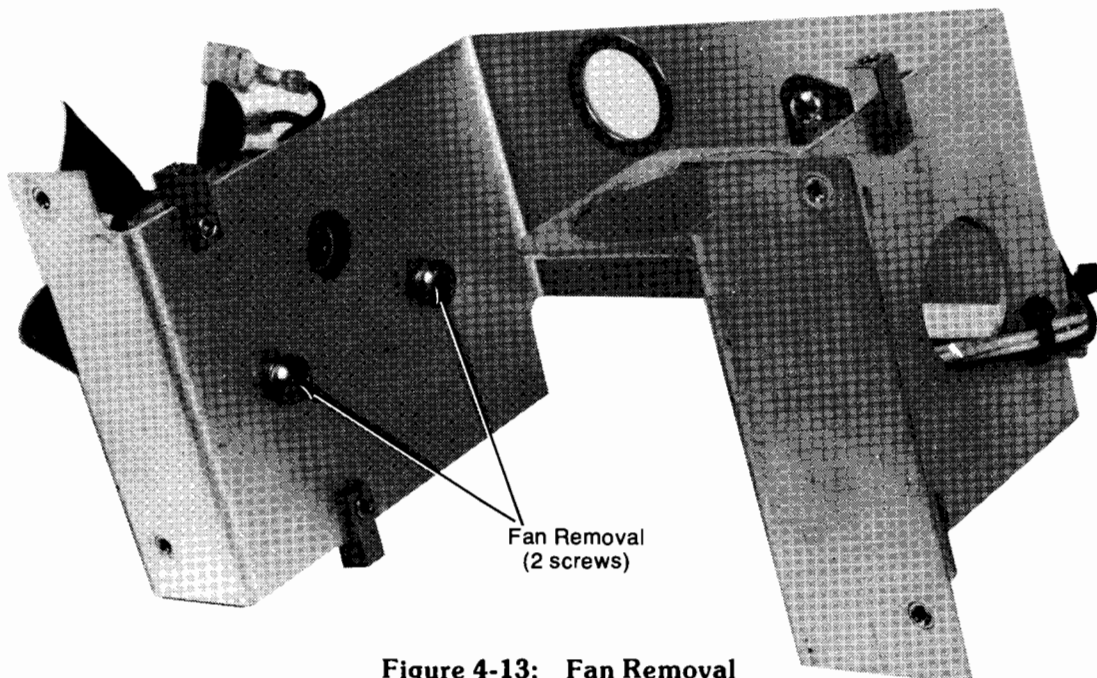

Figure 4-13: Fan Removal
The fan can be removed by removing the two (2) retaining screws as shown in Figure 4-13.